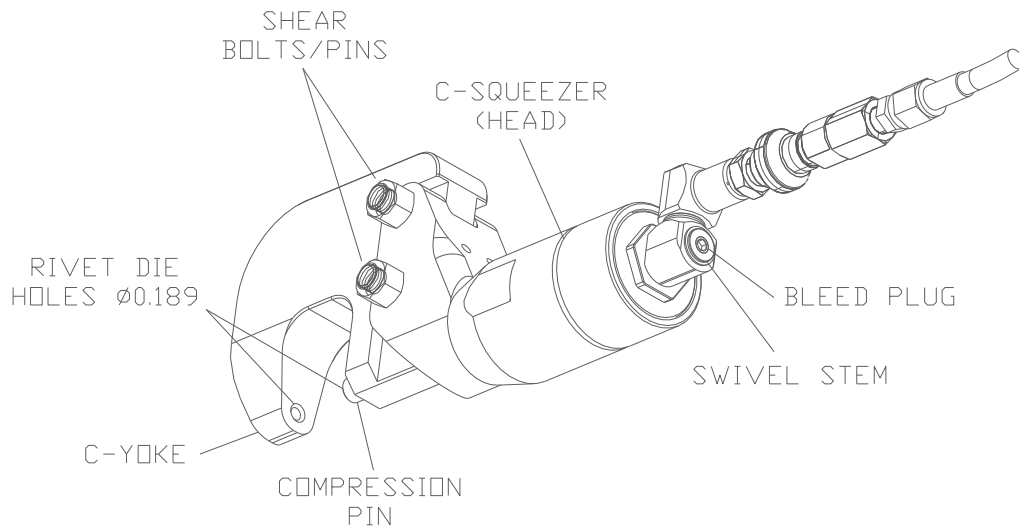

FIGURE 5 – C-SQUEEZER COMPONENTS
- 4.3 Refer to Figure 5 for installation views of the c-yoke, compression pins and bolts.
- 4.12 All CP-214 compatible c-yokes will have a mounting width of .560" (the width of the c-yoke that is inserted into the c-squeezer mount block). Some Heavy Duty (HD) yokes, typically 1.0" thick, may require a slight modification to fit the Numatx c-squeezers. Refer to figure 5. Numatx c-yokes are a direct fit into the yoke mount.